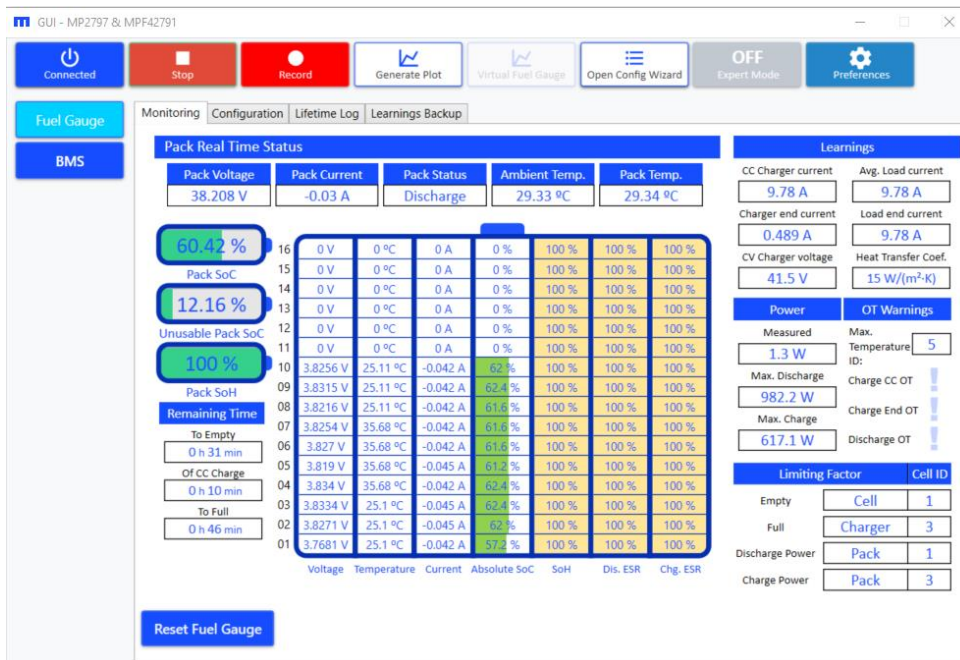

Figure 49: FG Monitoring
1. Click “Start” (denoted as “2” on Figure 28 on page 24). The GUI should start reading all monitoring registers continuously. After clicking “Start”, this button will be displayed as “Stop” (see Figure 49). For more details on the displayed registers, refer to the MPF4279x datasheet.
2. Figure 49 show the fuel gauge’s Monitoring window.
This function is only enabled if the connect function has been completed (see Section 3.3 on page 21 for more details). It cannot be used while the GUI monitors the registers (see Figure 49 on page 37).